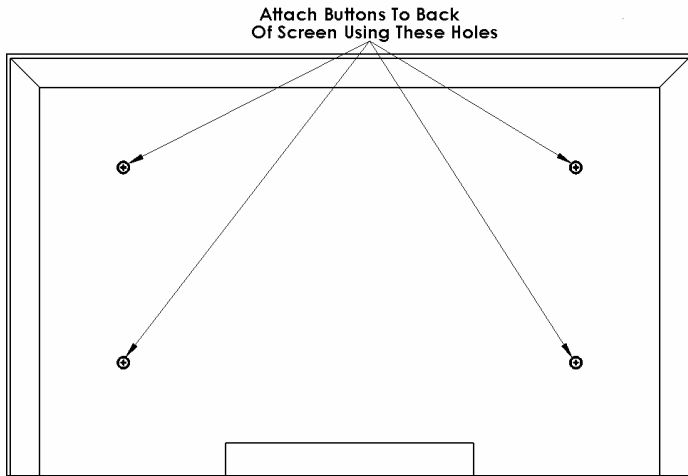

Figure 3
- Attach mounting buttons to the display using the M8 screws provided (see Figure 3 and 4).